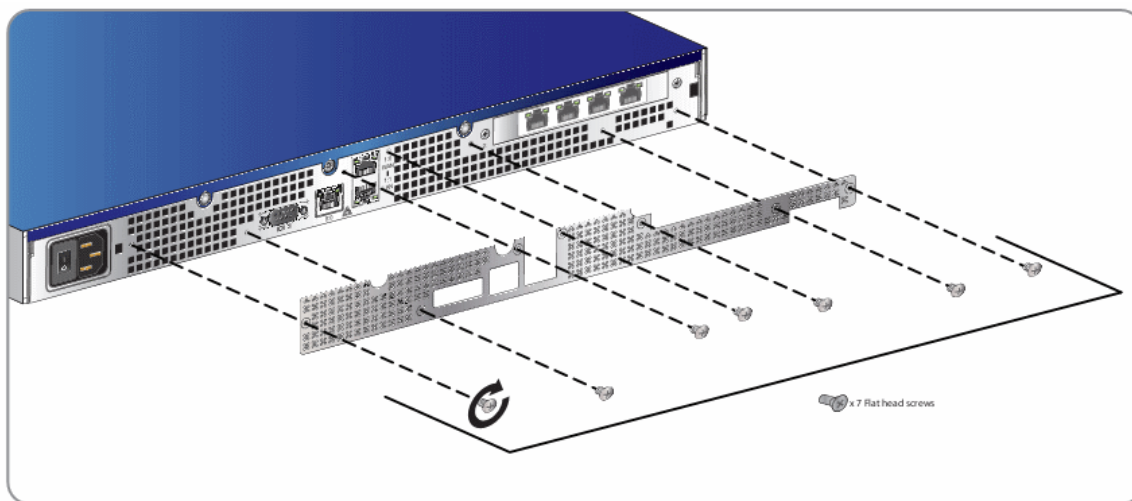

Figure 5 Rear Baffle Installation
2. To install the rear baffle, align the security panel mounting points against the screw locations shown below in Figure 5 with seven (7) flat-head screws.